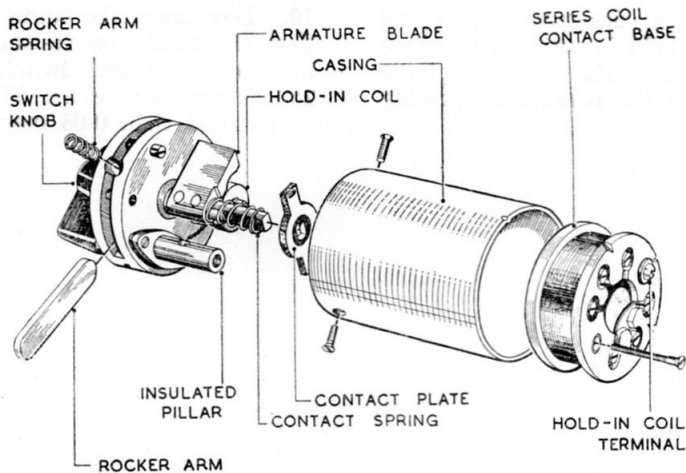

Fig. 1. Switch, de Havilland, Type 6N663A
2. A switch unit (*fig. 1*) comprises a cylindrical metal casing to which a terminal base is fitted at one end and a spindle assembly at the other end. The terminal base contains six terminals recessed into the outer face, and connected to brass flush-fitted contact studs on the inner face.